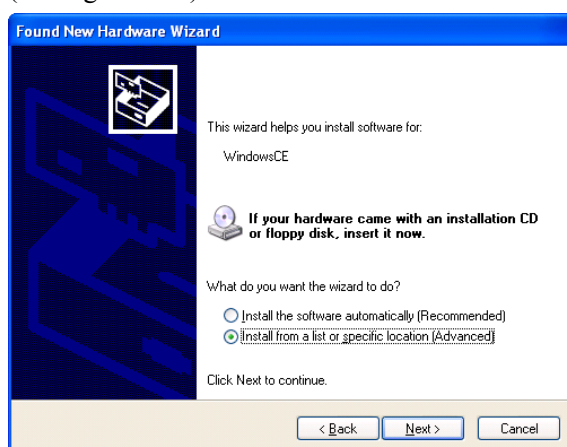

Figure 5.10
4. Choose **Install from a list or specific location [Advanced]** and then click **Next >** button (see Figure 5.10).